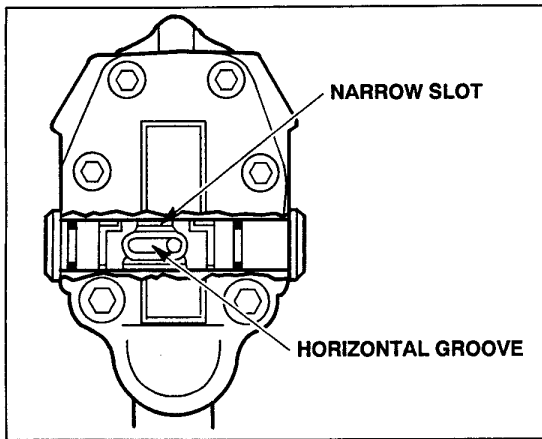

Figure 1. Porting Spool Orientation
4. See figure 1. The porting spool must have the horizontal groove toward the idler shaft assembly when assembled (with the narrower part of the relief above and the wider part below). While holding the porting spool in this position, install a lubricated o-ring in the **right groove** (holding the main body assembly oriented as shown in figure 1).